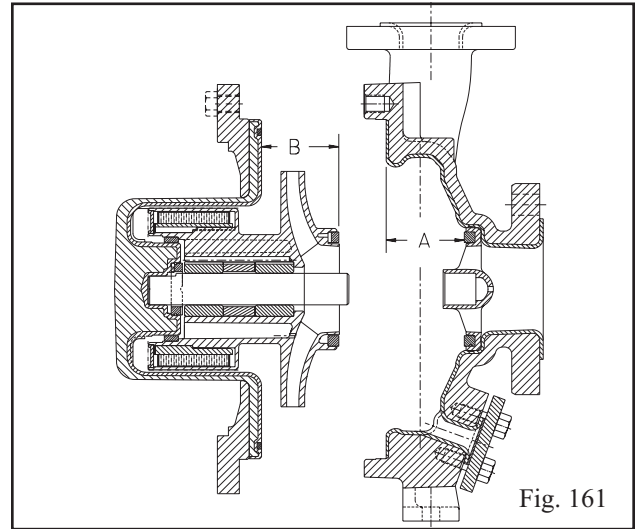

Fig. 161
12. Check rotary assembly total travel. See Fig. 161 for the appropriate measurements needed. For the L pump, total travel is A - B and should be 0.020 - 0.105 in. (0.51 - 2.67 mm)